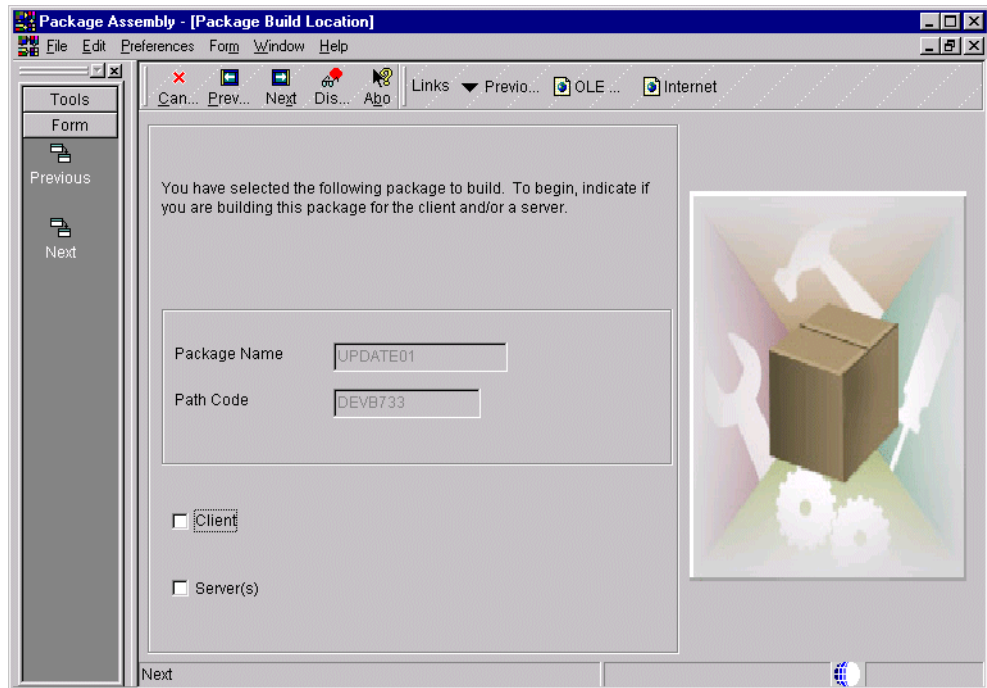

Figure 154. Package Build Location form
3. Click **Next**. The Package Build Location form appears (Figure 154). Specify whether you want to build a package for client workstations, one or more servers, or both clients and servers. If you are building a partial package, you will not be allowed to build the package for a server.